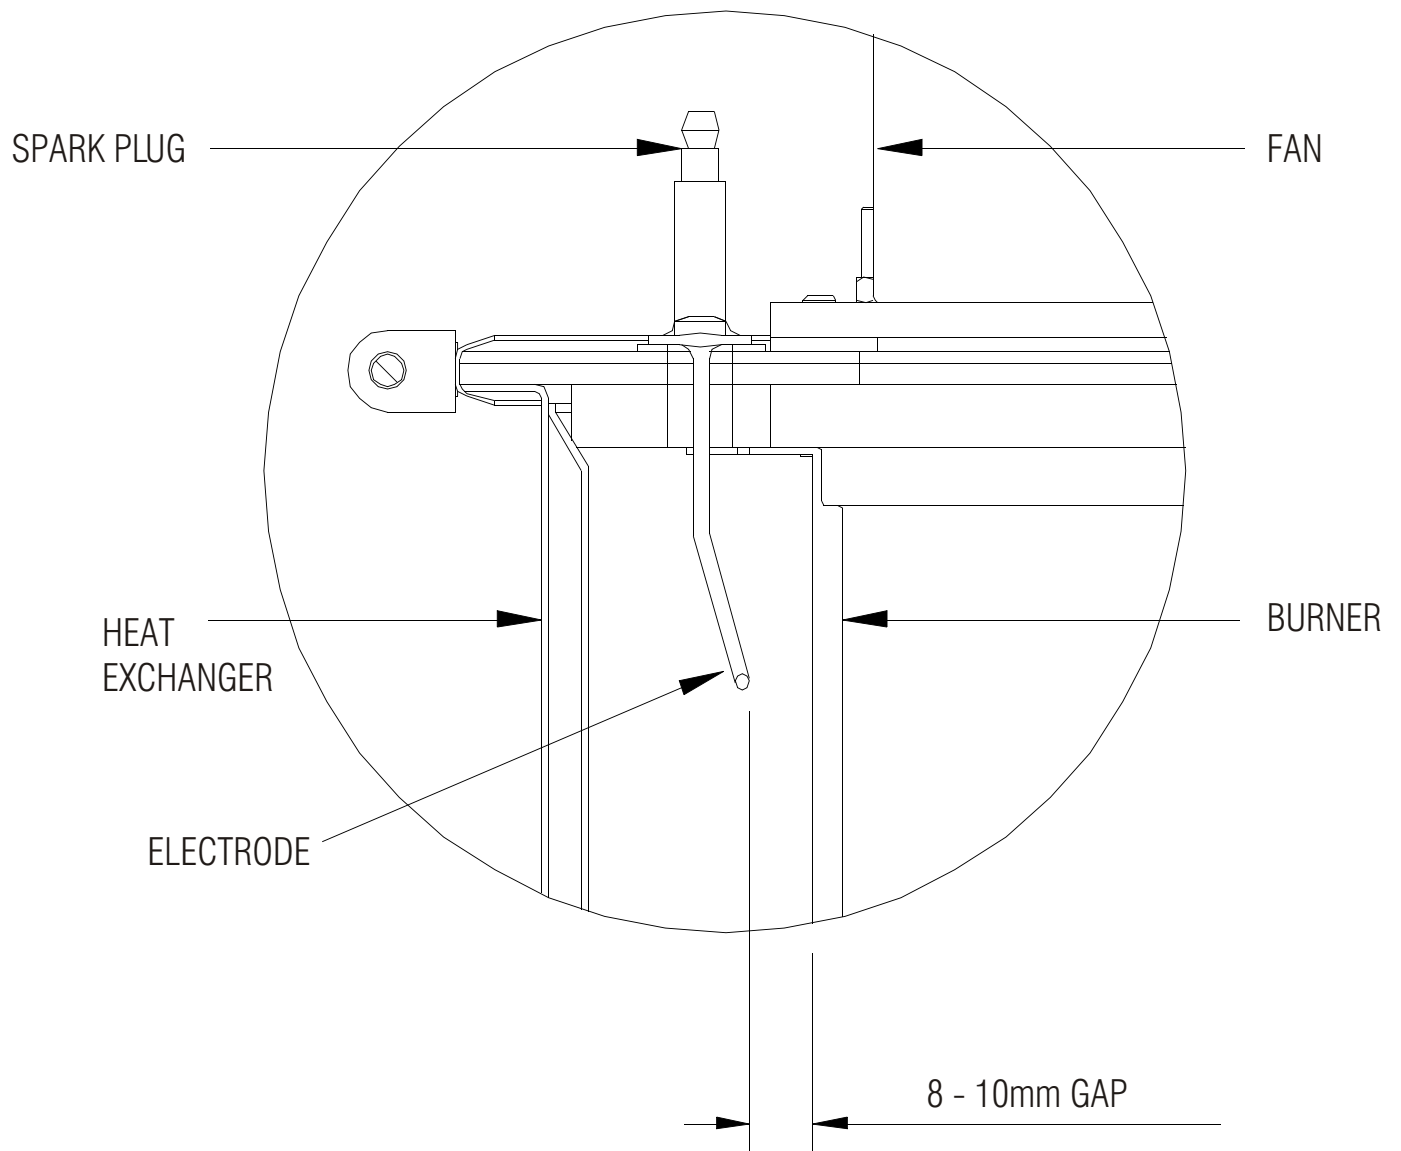

Figure 6B (electrode alignment)
- ii) Refer to Figure 6B and check the alignment of the electrode. If necessary, it can be adjusted by carefully bending the tip of the electrode rod whilst supporting the base of the electrode. Do not apply any pressure to the ceramic insulation.